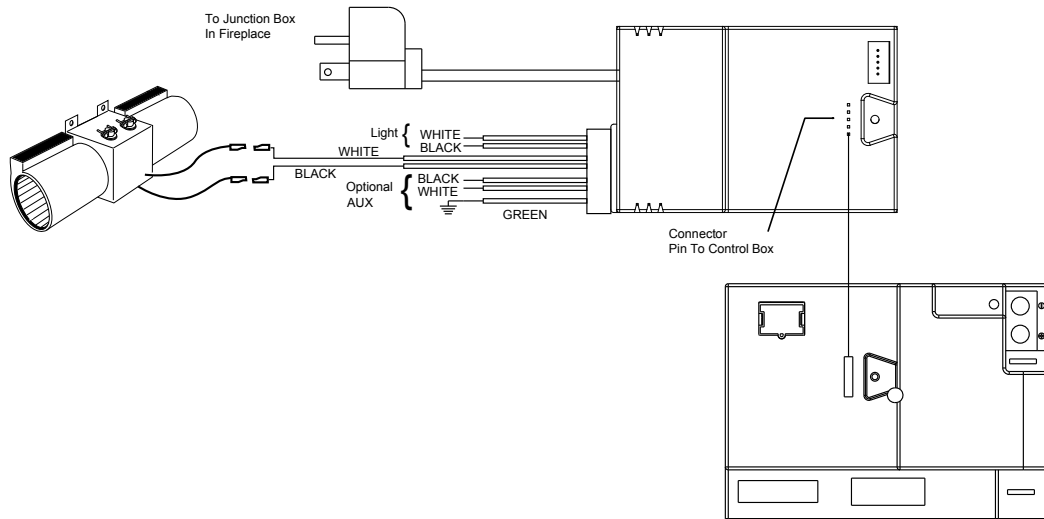

Fig. 53 Blower Wiring Diagram
- Connect the blower wires to the wire control board. See Figure 53 on page 29.